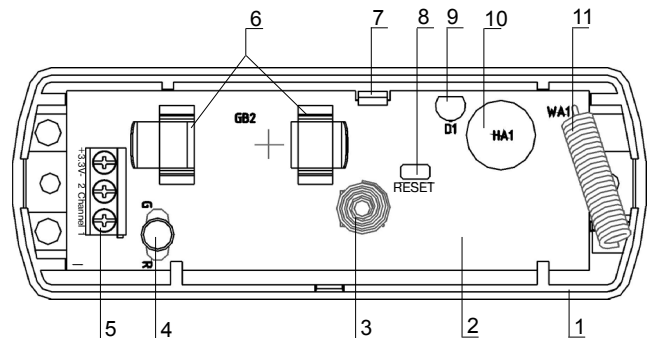

Figure 1 – The Detector with the opened cover
For PCB removal push up the trip (7) (See Figure 1) on the base.